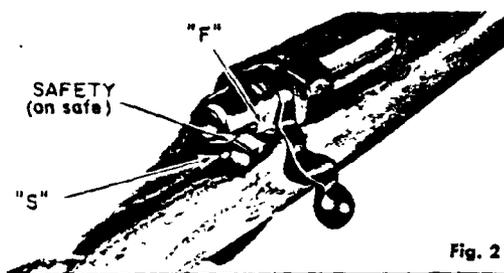

Fig. 2
**SAFETY** (Fig. 2) — Close bolt and rotate safety to rear stop position marked "S" on receiver. Side lever type safety is located at right rear of receiver. With safety in rear stop (ON SAFE) position, trigger cannot be pulled to fire rifle and bolt handle cannot be raised to unlock and open action.